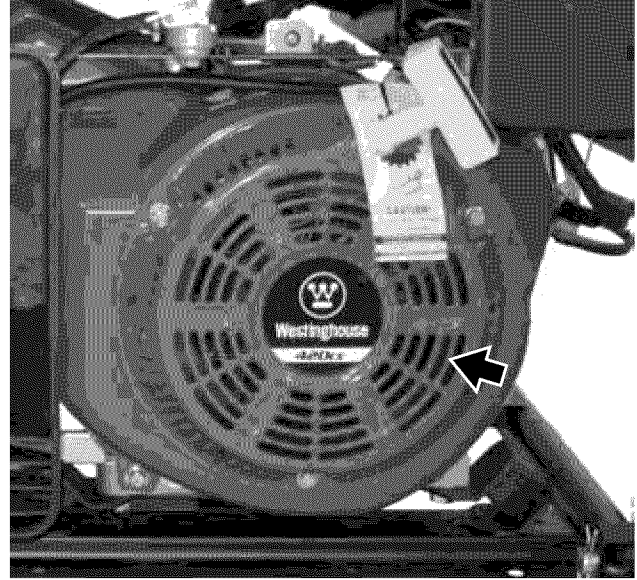

Figure 44 – Engine Air Inlet and Outlet Ports
**Clean All Engine Air Inlet and Outlet Ports** – Make sure all engine air inlet and outlet ports are clean of any dirt and debris to ensure the engine does not run hot (see Figure 44).